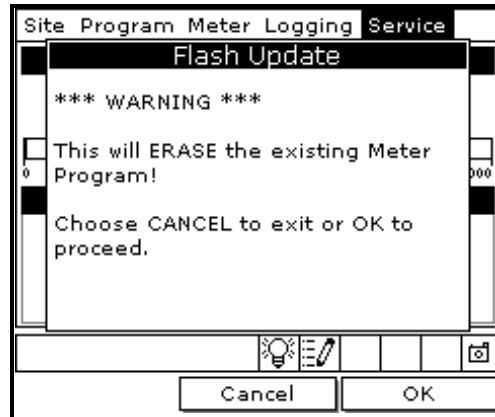

Figure 68: Flash Update Window
3. Use the arrow keys to scroll to Flash Update and press [ENTER]. The screen appears similar to Figure 68.